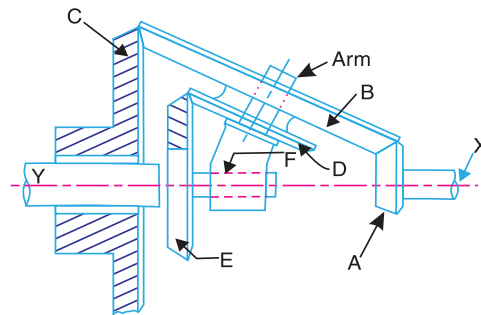

Fig. 13.43
14. A shaft Y is driven by a co-axial shaft X by means of an epicyclic gear train, as shown in Fig. 13.43. The wheel A is keyed to X and E to Y . The wheels B and D are compound and carried on an arm F which can turn freely on the common axes of X and Y . The wheel C is fixed. If the numbers of teeth on A, B, C, D and E are respectively 20, 64, 80, 30 and 50 and the shaft X makes 600 r.p.m., determine the speed in r.p.m. and sense of rotation of the shaft Y .